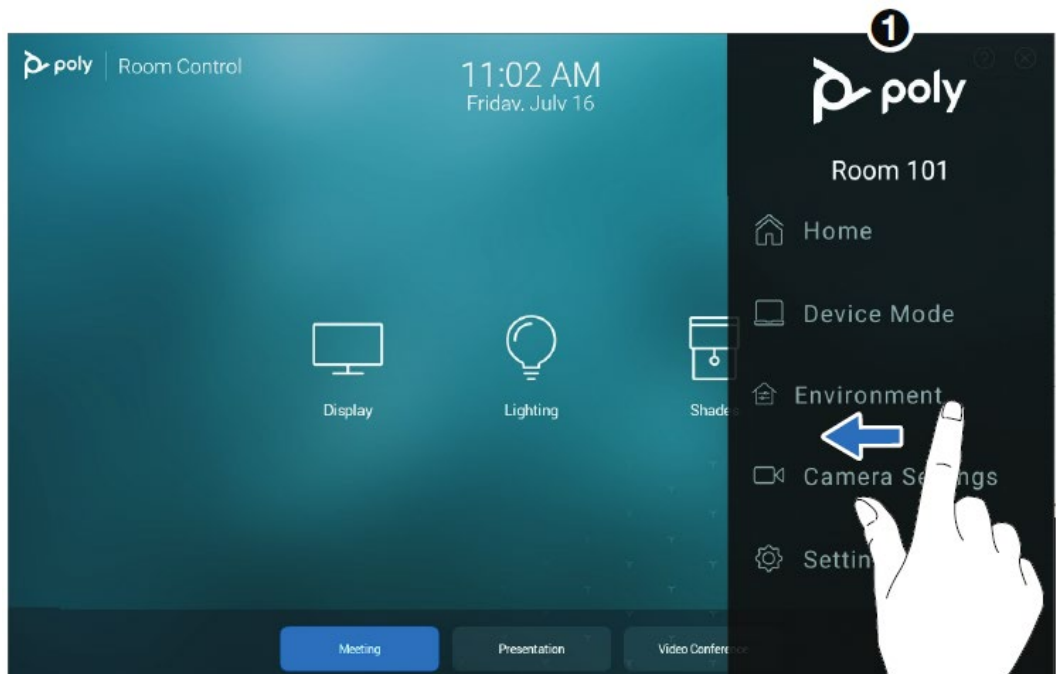

Figure 22. Accessing Extron Environment Control with the Poly Touch Controller Side Menu
When running the UC Conferencing providers application, users can access the Extron Control for Poly Touch Controller application via the Poly TC8 or TC10 side menu (see figure 22, ①). This menu can be accessed via a right to left swipe on the screen.